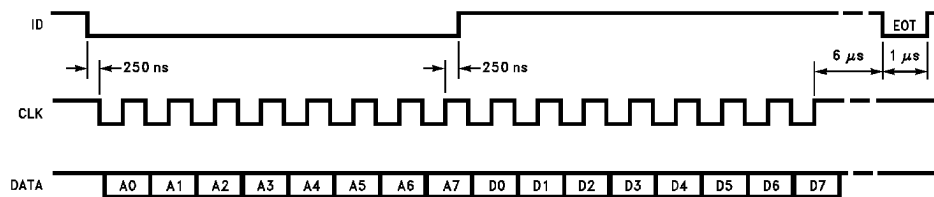

FIGURE 6. LMC1983's INTERMETAL Serial Bus Timing
The LMC1983 uses the INTERMETAL serial bus (IM Bus) standard. Serial data information is sent to the LMC1983 over a three wire IM Bus consisting of Clock (CLK), Data (DATA), and Identity (ID). The DATA line is bidirectional and the CLK and ID lines are unidirectional from the microprocessor or microcontroller to the LMC1983. The LMC1983's bidirectional capability is accomplished by using an open drain output on the DATA line and an external 1 kΩ pull-up resistor. The LMC1983 responds to address values from 01000000 (40_H) through 01000111 (47_H). The addresses select one of the eight available functions (see Table 1). The IM Bus' lines have a logic high standby state when using TTL logic levels. As shown in Figure 6, data transmission is initiated by low levels on CLK and ID. Next, eight address bits are sent. This address information includes the code to select one of the LMC1983's desired functions. Each address bit is clocked in on the rising edge of CLK. The ID line is taken high after the eight bits of address data are received by the LMC1983.